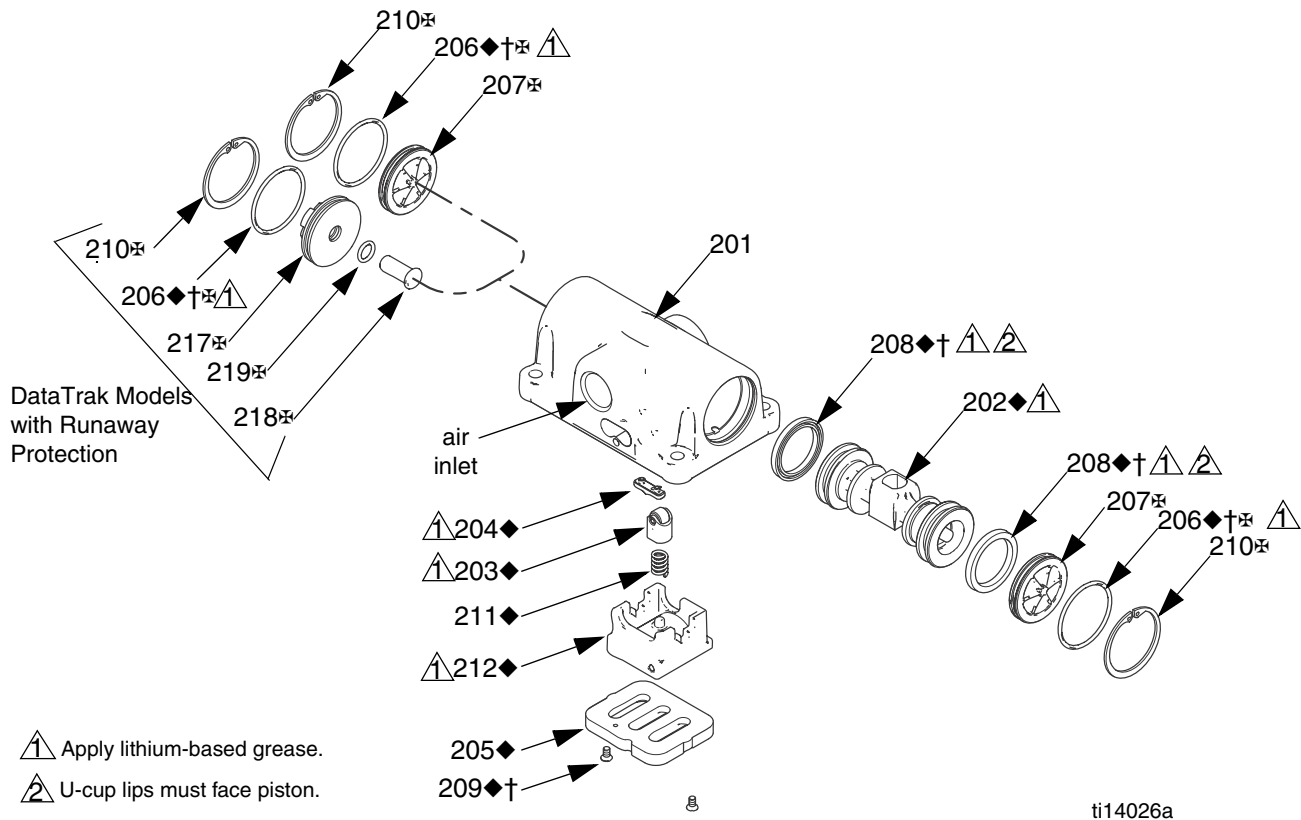

Fig. 4. Air valve assembly
2. See FIG. 4. Use a Torx screwdriver (T8 for aluminum centers, T9 for plastic centers) to remove two screws (209). Remove the valve plate (205), cup (212), spring (211), and detent assembly (203).
3. See FIG. 4. Remove the retaining ring (210) from each end of the air valve. Use the piston (202) to push the end caps (207, 217) out of the ends. Remove end cap o-rings (206). If pump model is equipped with a runaway protection solenoid, also remove the solenoid release button (218) and o-ring (219).
4. Remove the u-cup seals (208) from each end of the piston (202), then remove the piston. Remove the detent cam (204) from the air valve housing (201).